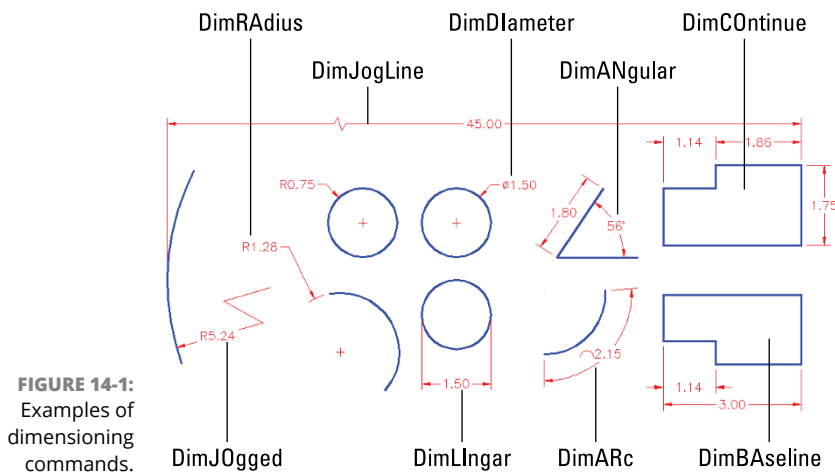

FIGURE 14-1:
AutoCAD provides several types of dimensions and commands with which to draw them; most commands are shown in Figure 14-1. These commands are found on the Dimensions panel of the Annotate tab on the Ribbon. If you can't find the button you want, it's probably hidden in the drop-down list, under the larger button on the left side of this panel. This panel remembers the last button you used, so at any given time, it may be displaying any one of the following buttons.
» **Radial — DimDiameter (DDI), DimRadius (DRA):** A diameter dimension calls out the diameter of a circle or an arc, and a radius dimension shows the radius of a circle or an arc. You can position the dimension text inside or outside the curve; refer to Figure 14-1. If you position the text outside the curve, AutoCAD draws (by default) a little cross at the center of the circle or arc. AutoCAD automatically adds the diameter and radius symbols to the appropriate dimension type.
If you want to be superefficient, memorize the three-letter command aliases for the dimension commands you use most often, of which DIM should top the list. Refer to Figure 14-1 to see the aliases of the most common commands.
- » **Dimension lines:** In linear dimensions, indicate the true distance between points. Angular dimensions have curved dimension lines with the center of the curve at the vertex point of the objects being dimensioned. For radius and diameter dimensions, the dimension line simply points at or through the center of the object being dimensioned. Refer to Figure 14-1 for examples of these dimension types.